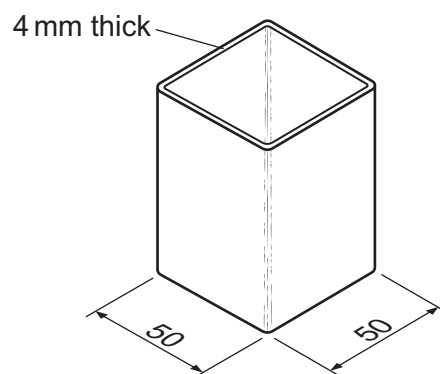

Fig. 12.4
- (f) Fig. 12.4 shows one of the containers made from plastic tube.